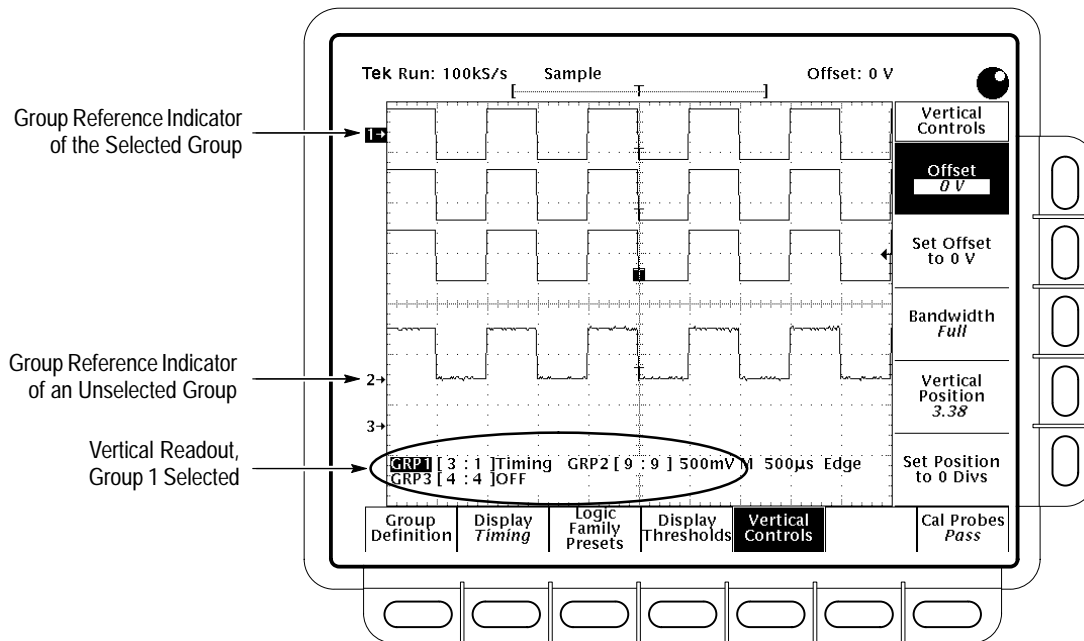

Figure 2–3: The Vertical Readout and Vertical Controls Menu
To access the Vertical Controls menu, press **GROUP MENU** → **Vertical Controls** (main). (See Figure 2–3.)
- The logic scope highlights the selected group. It also displays its group reference indicator (left of the graticule) and its group readout label in reverse video. (See Figure 2–3.)